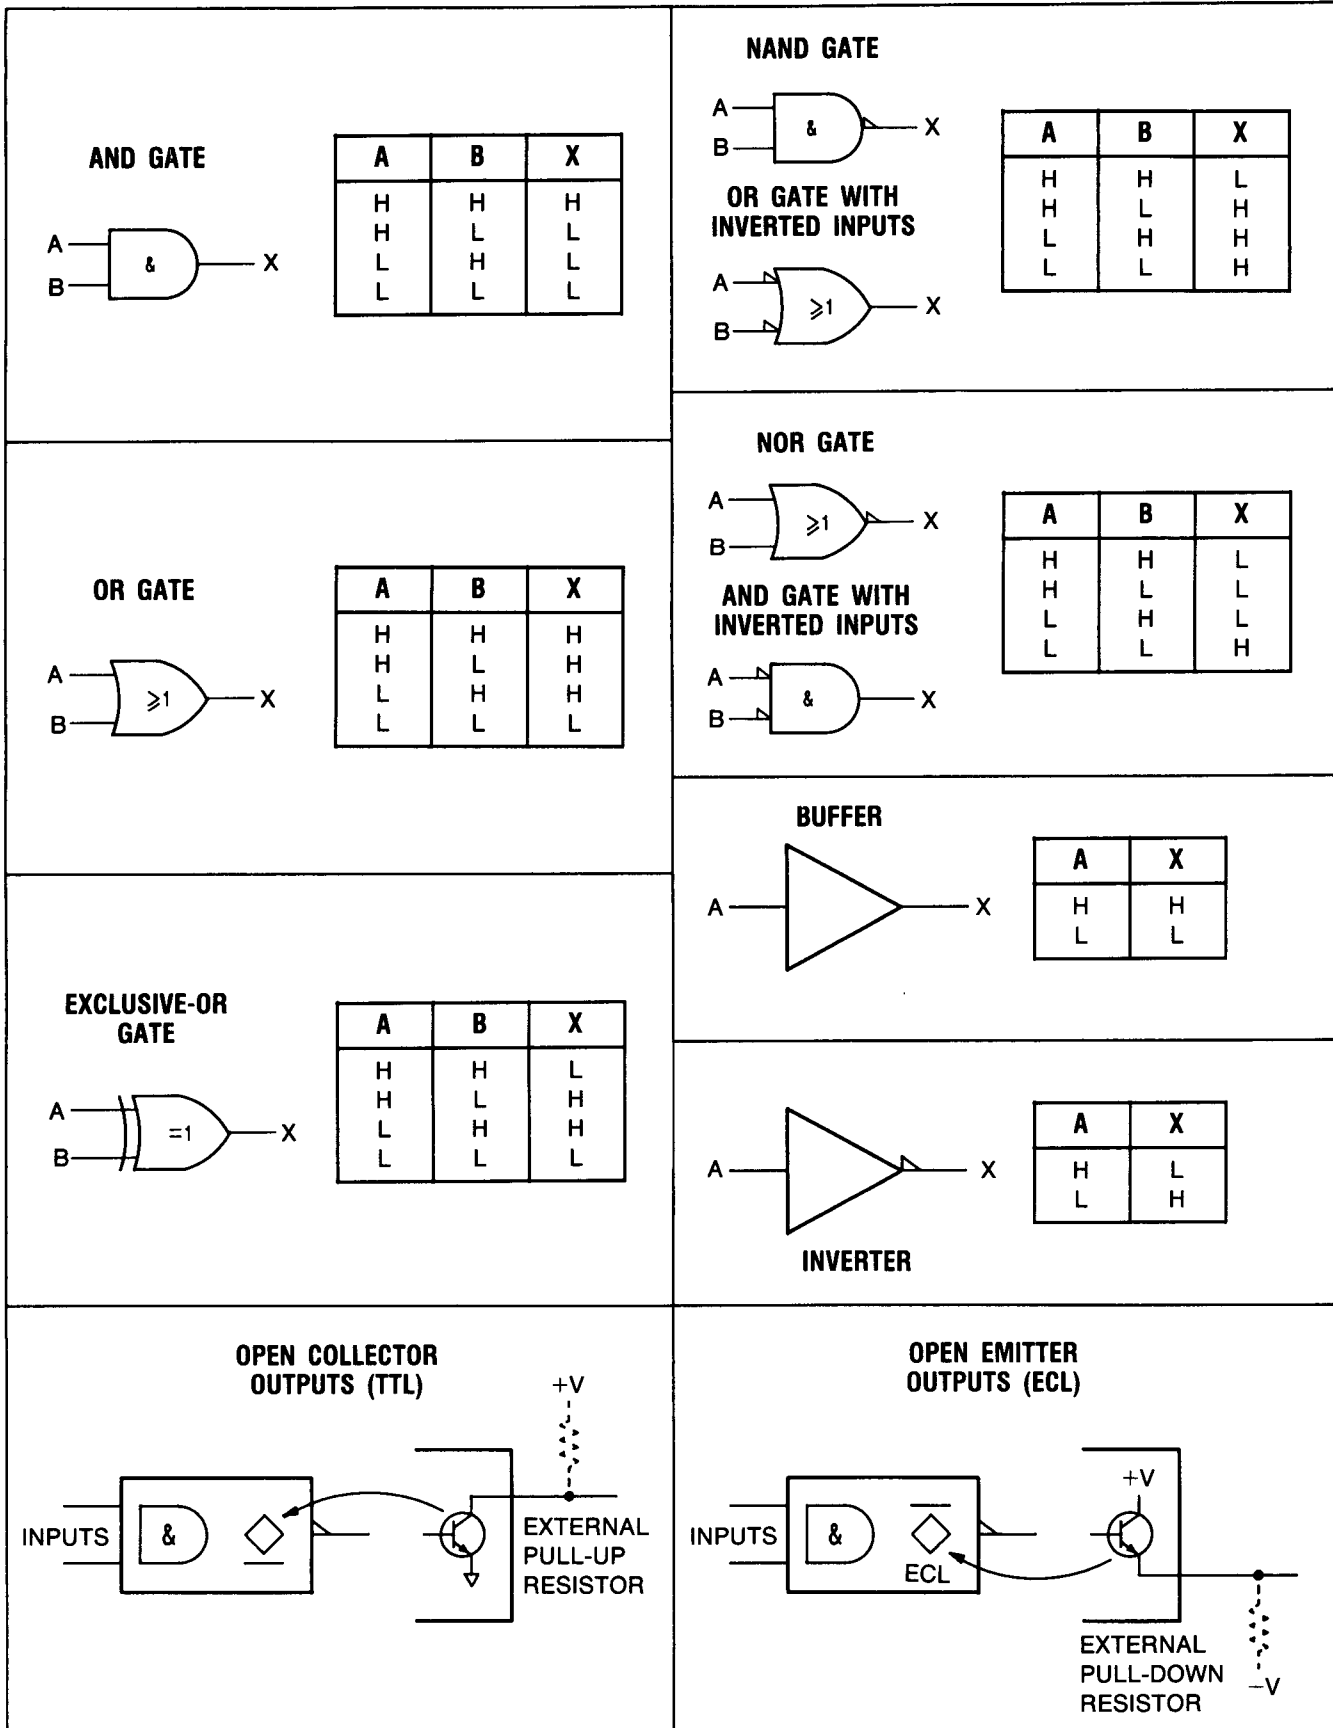

Figure 8A-3. Basic Logic Symbols and Qualifiers
**Shift Register.** The control block shown in Figure 8A-7 is used to show common inputs to a Bidirectional Shift Register. Input "a" has two functions common to one pin. When input "a" is high, parallel-loading of the D-type flip-flops (1,3D) is enabled after high-to-low transition of the clock input (C3). During parallel-loading, entry of serial data is inhibited. When input "a" is low, one input to the top D-type flip-flop (2,3D) is enabled to shift data "m" units after high-to-low transition of the clock input (C3). Input "b" is active during the high-to-low transition of the clock input. Input "b" loads